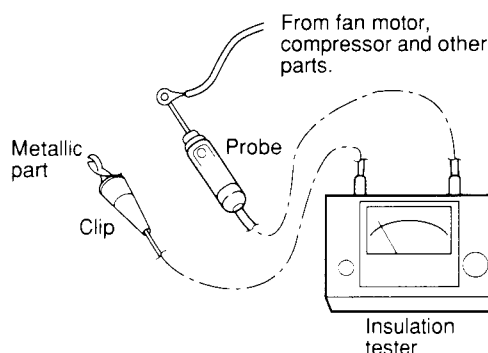

Fig. 47
- Similarly, disconnect the lead wires from compressor, capacitor, etc. (Fig. 47)